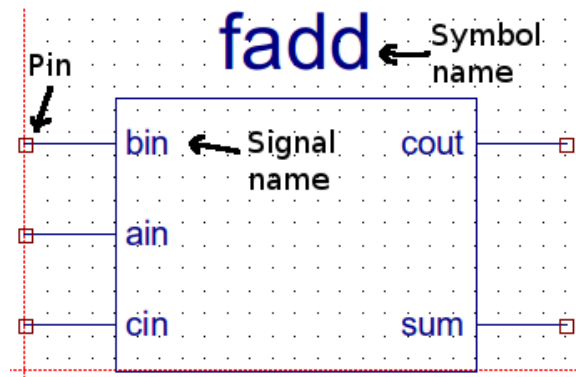

Figure 36: Newly created fadd symbol
4. Your symbol should look similar to that in Figure 36. Each dark-red square is called a pin and represents where a connection is made to the symbol. There is a Signal name associated with each pin and a Symbol name for the symbol. The rest is incidental artwork.